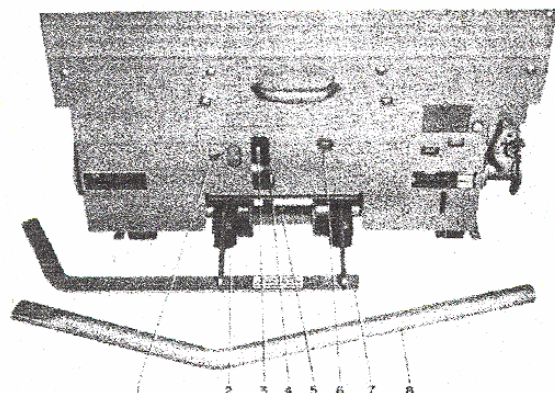

Fig. 2 - Front View of Control Panel
IF IT IS NECESSARY TO RAISE OR MOVE THE BREAKER, ATTACH THE LIFTING YOKE AT POINTS 7 (FIGURE 1), OR A FIFTH WHEEL AT POINT 5 (FIGURE 2) TO TRANSPORT THE BREAKER AS REQUIRED.
3.7 MANUAL SLOW-CLOSE TO CHECK CONTACT PRESSURE (Figure 2)
3.10 INSTALLING CIRCUIT BREAKER INTO COMPARTMENT (See Figures 2 and 4)
1. Turn motor disconnect switch (if supplied) (1) Figure 2) to "OFF" position.
3. Engage fifth wheel with hole guide (5, Figure 2) and push circuit breaker into compartment until stopped. (If closing springs were left in charged condition, they will automatically discharge.)
6. With the circuit breaker racked to "TEST" position, check for proper operation by operating all possible means of opening and closing. This includes control switches, relays, etc. Turn motor disconnect switch (1, Figure 2) to "ON" position to charge the closing springs, and operate the breaker as required. If motor disconnect switch (1, Figure 2) is not provided, springs will automatically charge when approaching "TEST" position.